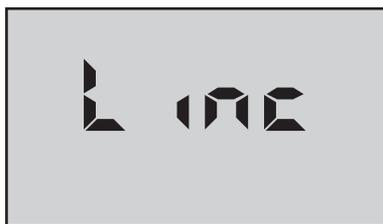

Figure 27
- Press  arrow key until the menu “Linc” appears (see Figure 27).
2. Press  key until the menu "Linc" appears (see Figure 27).